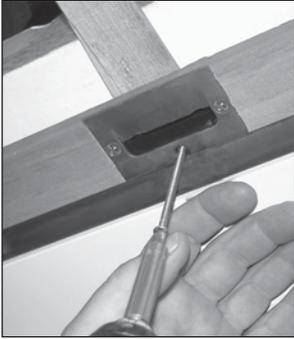

Figure 13
12. The top frame member should also be anchored to the header by predrilling and screwing in the same fashion as the side jambs (see figure 13). Although shimming is not required along the full length of the header, shimming and attachment at the head strike plate is necessary. Use the #8x3" screw provided in the hardware bag.